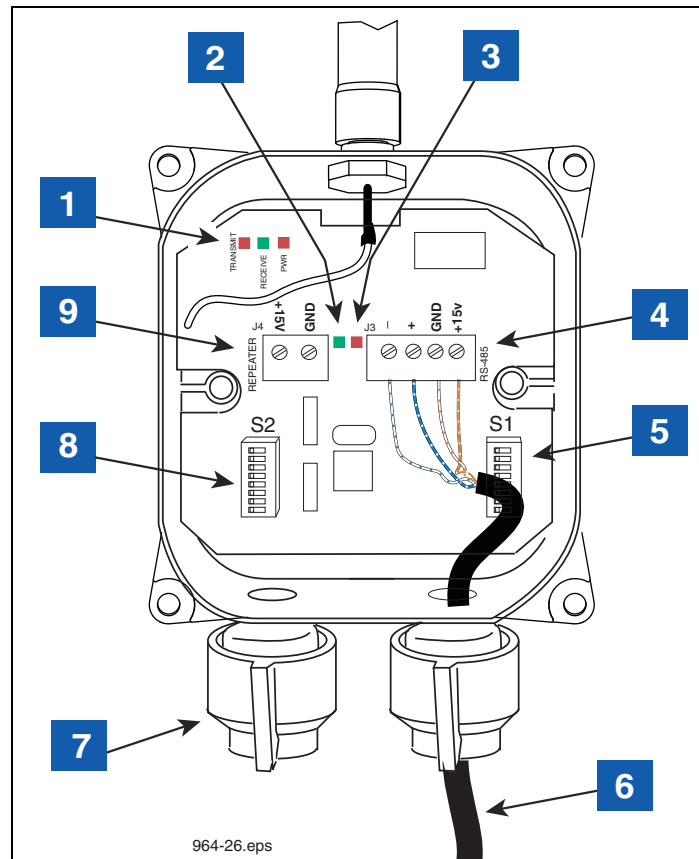

Figure 20. Wiring The Receiver
6. Note that there are two twisted pair color-coded wires in the cable (e.g., a white with blue stripe and blue with white stripe pair and a white with orange strip and orange with white stripe pair). One of the pairs is for RS-485 communication (- & + terminals) and the other pair is for Receiver power (+15 Vdc & Gnd). Using Figure 20 as a guide, attach the wires of the two twisted pairs to the RS-485 terminals.
8. If a Repeater is used and powered by the Receiver, push the two wire power cable (to Repeater) through the +15 Vdc cord grip of the Receiver (item 7 in Figure 20).
10. Attach the dc power cable (white to +15 Vdc and black to GND) to the Repeater terminal block (item 9 in Figure 20).
LEGEND FOR NUMBERED BOXES IN Figure 20
1. Use of a single repeater is optional but may improve system performance when installed correctly. The Repeater should be located closer to the device transmitters to rebroadcast messages to the Receiver. Use the 15 Vdc power source provided in the Receiver to power the Repeater, or use a customer supplied non-interruptible, Class 2, 15 Vdc power source. The most common method of powering the Repeater power is to use the Repeater power terminal block J4 in the Receiver (see item 9 in Figure 20).
9. The other end of the Repeater's dc power cable connects to the Receiver's +15 Vdc output terminal (ref. item 9 in Figure 20), or to a non-interruptible, Class 2, 15 Vdc power source.
- 5. DC Power input cable (from Receiver [item 9 connector - see Figure 20], or dc power source)